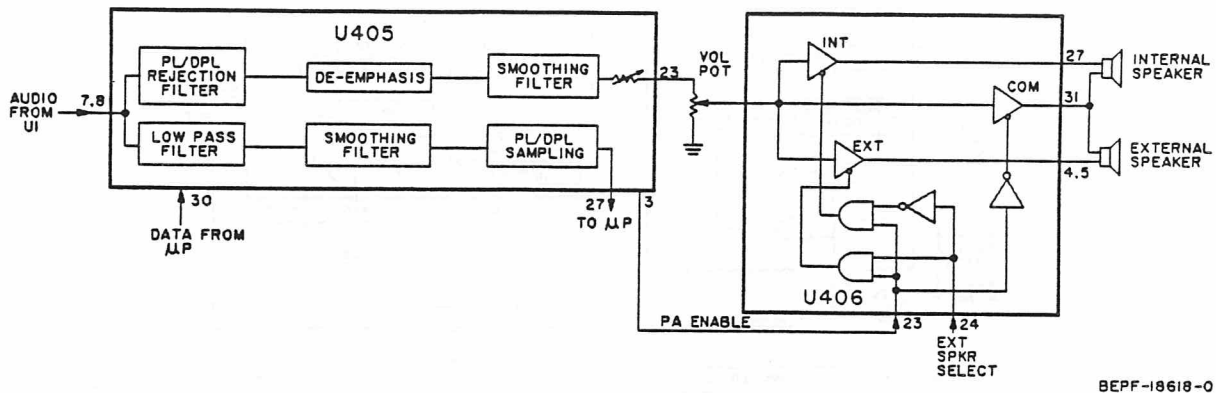

Figure 9. Receiver Audio Circuitry
h. Receiver Audio Circuitry (See Figure 9)